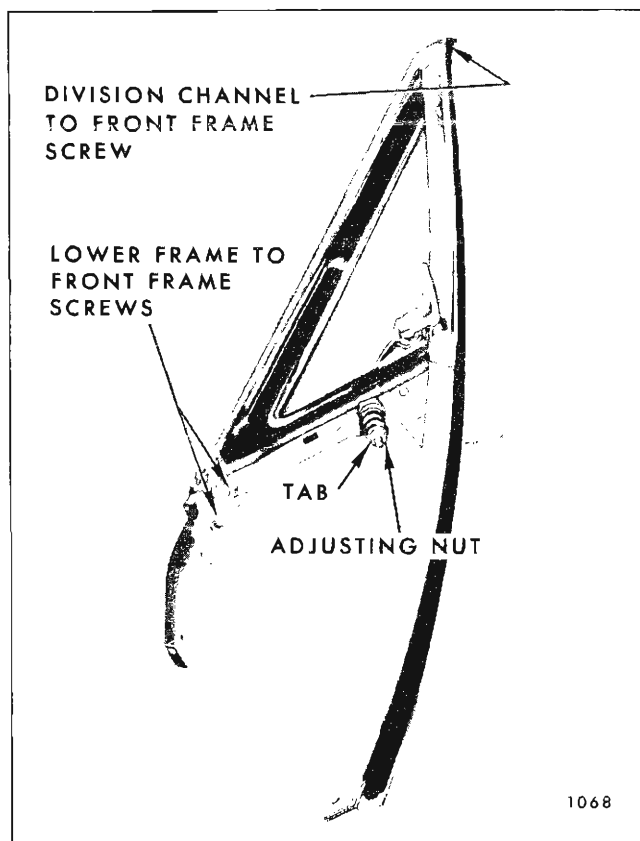

Fig. 5D18—Front Door Ventilator Assembly
2. Remove door inner panel to ventilator attaching screw at belt (Fig. 5D16).
3. Remove ventilator division channel lower adjusting stud nut (Fig. 5D16).
4. On door hinge pillar, remove ventilator frame lower attaching bolt and ventilator frame lower adjusting stud nut (Fig. 5D16).
5. Loosen rear glass run channel upper attaching screw and remove run channel lower adjusting stud nut (Fig. 5D17). Move door glass as far rearward as possible.